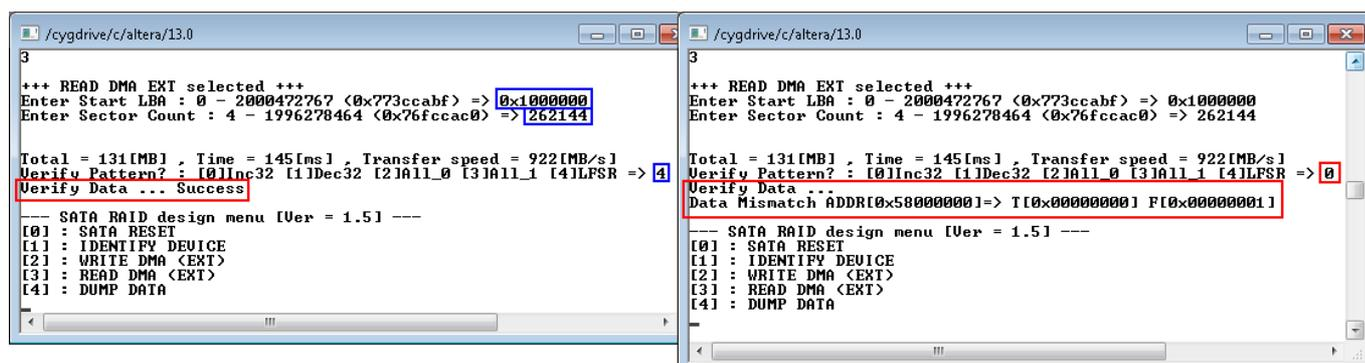

Figure 2-7 READ COMMAND with verify
- Verify Pattern: this value is used for selecting verification pattern. This input should be matched with the pattern in WRITE DMA (EXT) menu. Five verification patterns can be selected, similar to write pattern. "Verify Data ... Success" is displayed for success case, and "Data Mismatch with failure value" is displayed for failure case, as shown in Figure 2-7